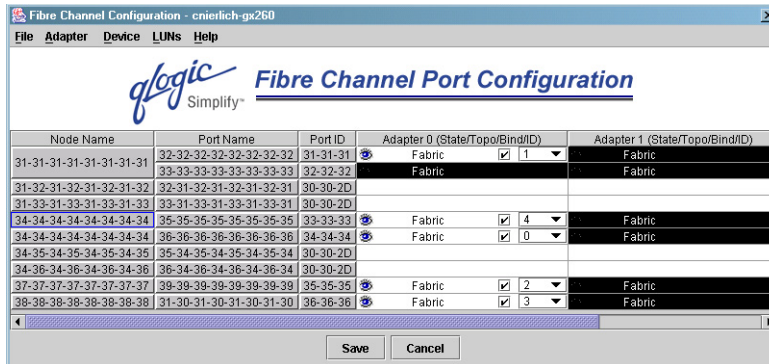

Figure 7-5. Force Separated Device Configuration
- Click **Yes** to force device separation. The new configuration displays, as in the example in figure 7-5; there are two listings for device node name 34-34-34-34-34-34-34-34.
1. From the **Fibre Channel Port Configuration** dialog box, click in the cell in the Device Node Name column. For example, click device node name 34-34-34-34-34-34-34-34 in figure 7-5.